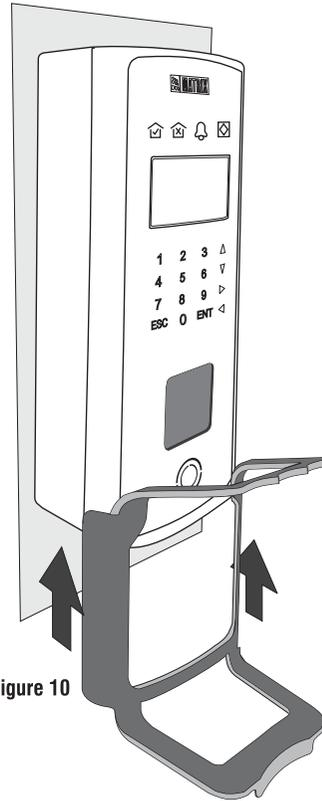

Figure 10
- Press to align the hand guide to the sides of the enclosure (figure 10).
- Slide the hand guide from bottom up (figure 10). The notches on the hand guide will get locked at the appropriate location.